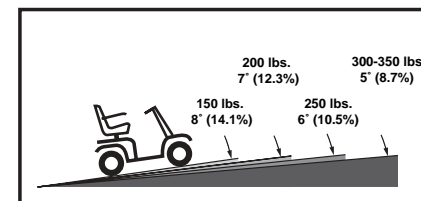

Figure 1. (3-wheel) Maximum Recommended Incline Angles
**WARNING!** Even though your scooter is capable of climbing slopes greater than those illustrated in figures 1 and 1A, do not, under any circumstances, exceed the incline guidelines or any other specifications presented in this manual. Doing so could cause instability in your scooter.
Handicap public access ramps are not subject to government regulation in all countries, and therefore do not necessarily share the same standard percent of slope. Other inclines may be natural or, if man-made, not designed specifically for scooters. Figures 1 and 1A illustrate your scooter's stability and its ability to climb grades under various weight loads and under controlled testing conditions.
**WARNING!** Any attempt to climb or descend a slope steeper than what is shown in figures 1 and 1A may put your scooter in an unstable position and cause it to tip.